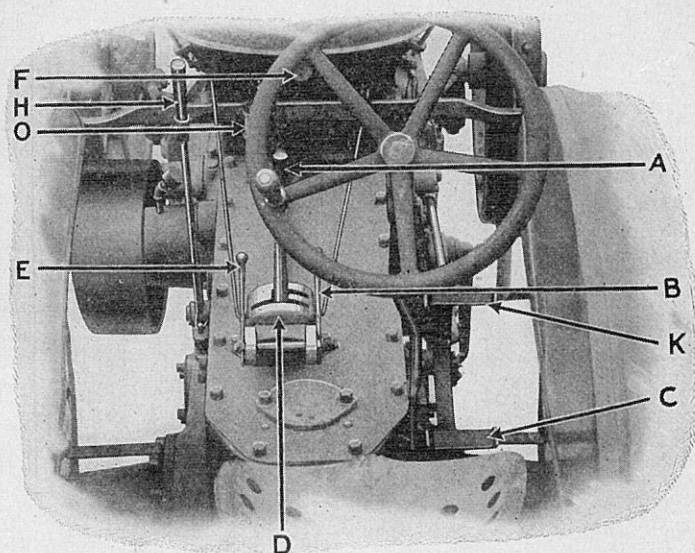

Fig. 50
1. The emergency brake lever, H, Fig. 50, should be pushed as far forward as it will go when tractor is running. In using this brake to slow down or stop the tractor or hold it in position under belt power operation, pull the brake lever, H, Fig. 50, back as far as necessary.
1. Line the tractor up with the machine to be driven. After putting on the belt, back tractor, to take up the belt slack. The transmission gear shift lever, A, Fig. 50, should then be placed in neutral or center of quadrant, D, Fig. 50.
2. Now push forward on clutch pedal at K, Fig. 50, until the clutch is fully engaged.
3. **Note:** To stop your machine for minor adjustments, push clutch pedal to the rear, C, Fig. 50, until clutch is disengaged. The transmission will now stop while the motor is still running.
4. Glass oiler at O, Fig. 50, on transmission cover should be filled with oil of good quality. Oil should drip during belt work on the bevel gears which operate the belt power transmission. This is necessary as these gears are above the oil level in transmission case and, therefore, do not receive lubrication unless the entire transmission is running.